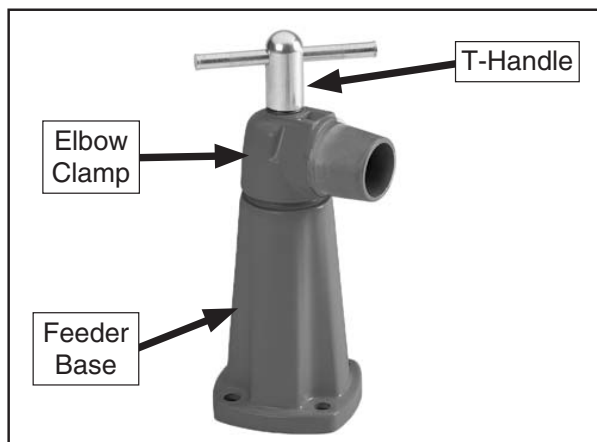

Figure 6. Assembled elbow clamp assembly.
1. Oil the T-handle threads and position the elbow clamp assembly onto the feeder base, as shown in **Figure 6**.